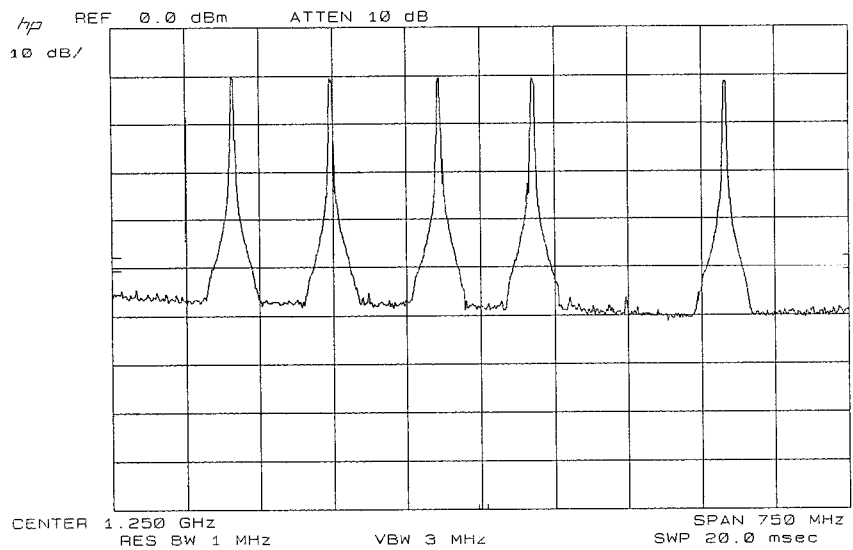
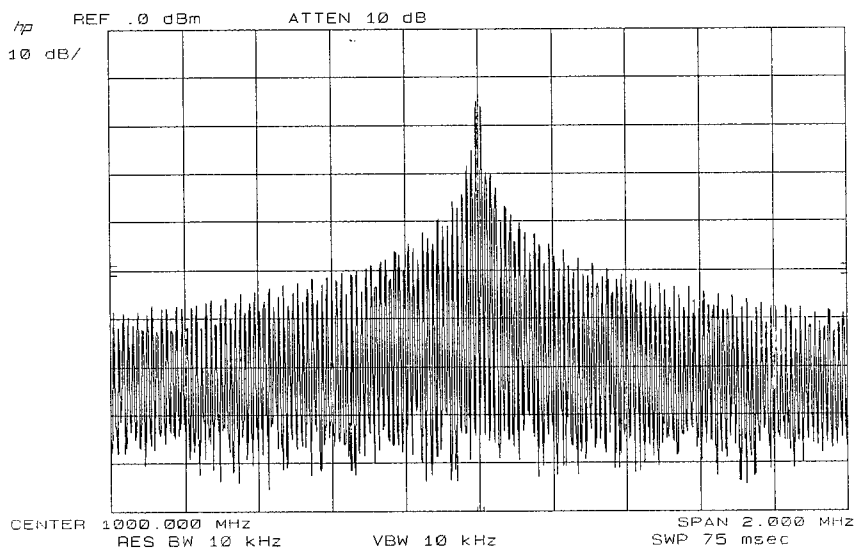

Figure 2-9. Frequency Hopping Radar
Figure 2-10. Individual Frequency Hop Radar Pulse
7. When the RF output signal is displayed on a spectrum analyzer, it should be as shown in Figure 2-9. Figure 2-10 shows an individual pulse.